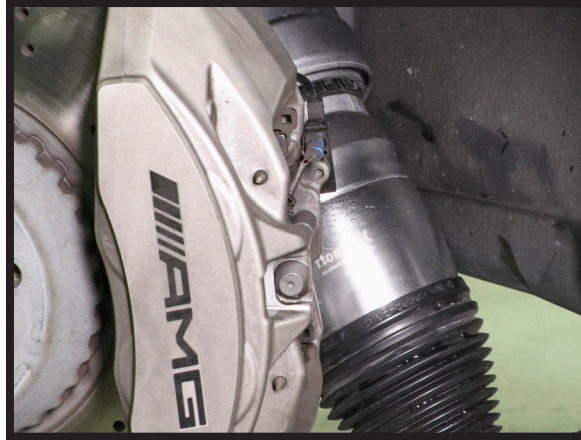

FIGURE 23
2. INSTALL THE ARNOTT STRUT INTO THE VEHICLE. (FIGURE 23)